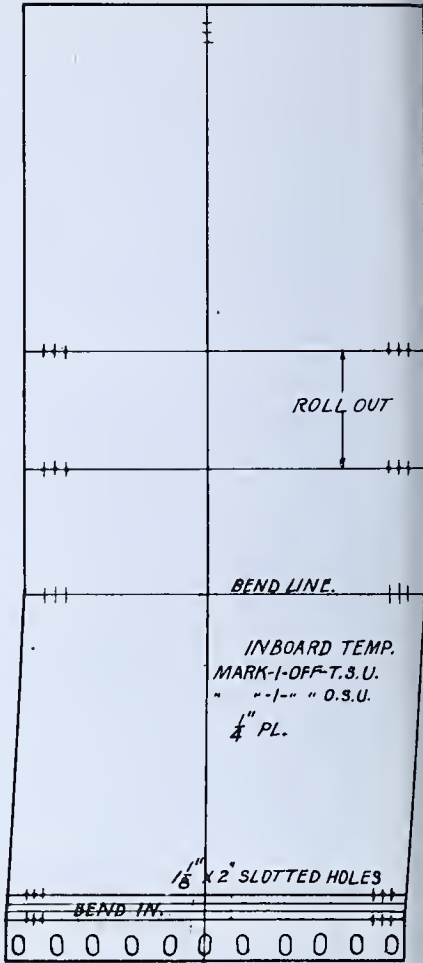

FIG. 347 —
5. Make a template for inboard-starboard plate. See Fig. 347.